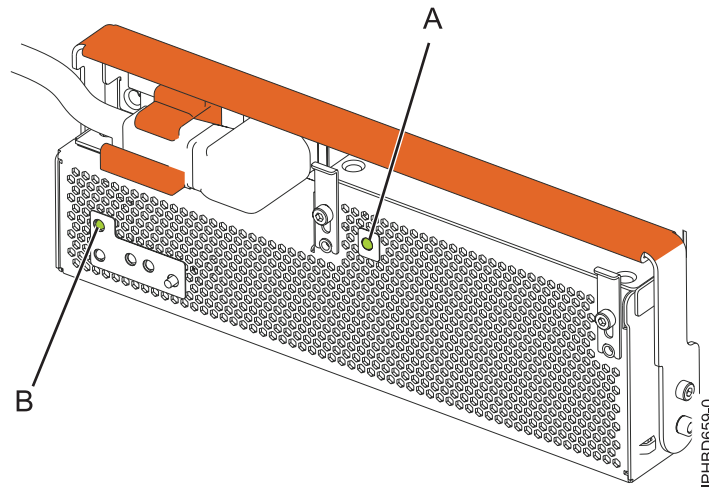

Figure 18. Expansion unit ac power and OCA power LEDs
10. Note the state of the green ac power in (A) and Offline Converter Assembly (OCA) power (B) light-emitting diodes (LEDs) shown in Figure 18, and do one of the following actions, as applicable:
- If the LEDs indicate that the power supply is operating normally, that is, that the ac power in LED (A) is on solid and the OCA power (B) LED is on solid or flashing, continue to the next step.